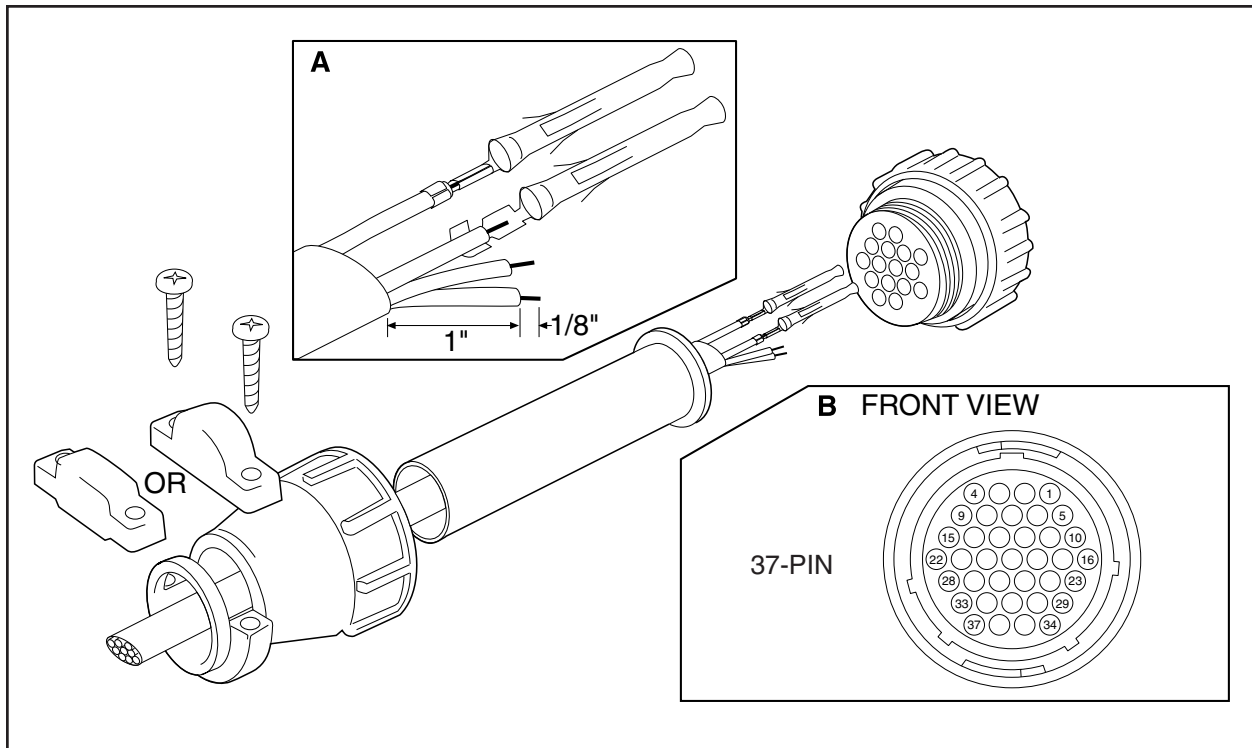

Figure 10. Connector Assembly
Assemble the connector parts according to the instructions below. Detail B, below, reflects the pin arrangement specific to all SB26/SB2600 Series. Refer to Figure 10 during assembly. For best results use an AMP style crimper when making the wire to pin connection.
- c. Using an AMP style crimper, crimp the wires and their insulation to the connector pins. Refer to Detail A in Figure 10.
3. Slide the connector pins into the appropriate holes in the connector body until they snap into place. Refer to Figure 10 for correct pin arrangement, depending on model and options.